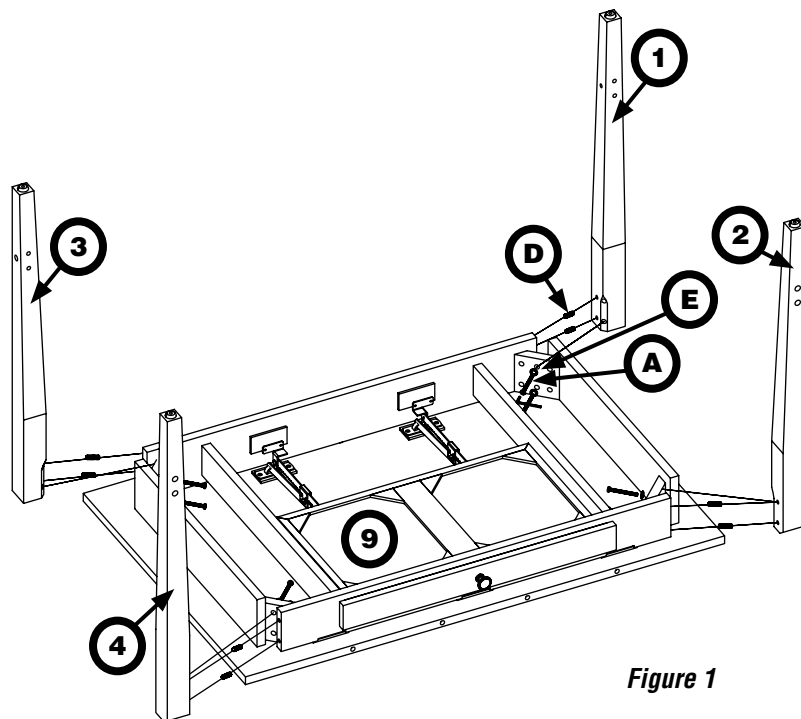

Figure 1
- 3** Place tabletop assembly on a carpeted or otherwise protected floor with the drawer unit facing up, as shown in *Figure 1*.